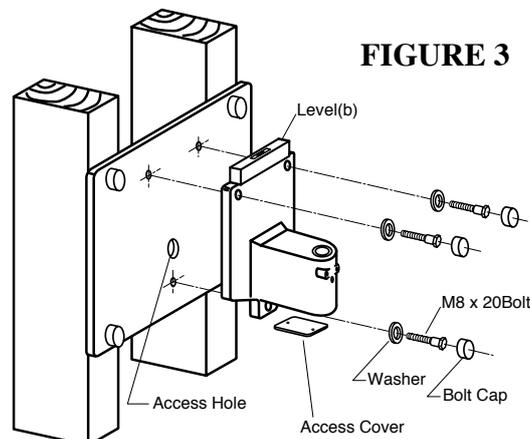

FIGURE 3
B. ARM MOUNTING BRACKET (FIGURE 3):